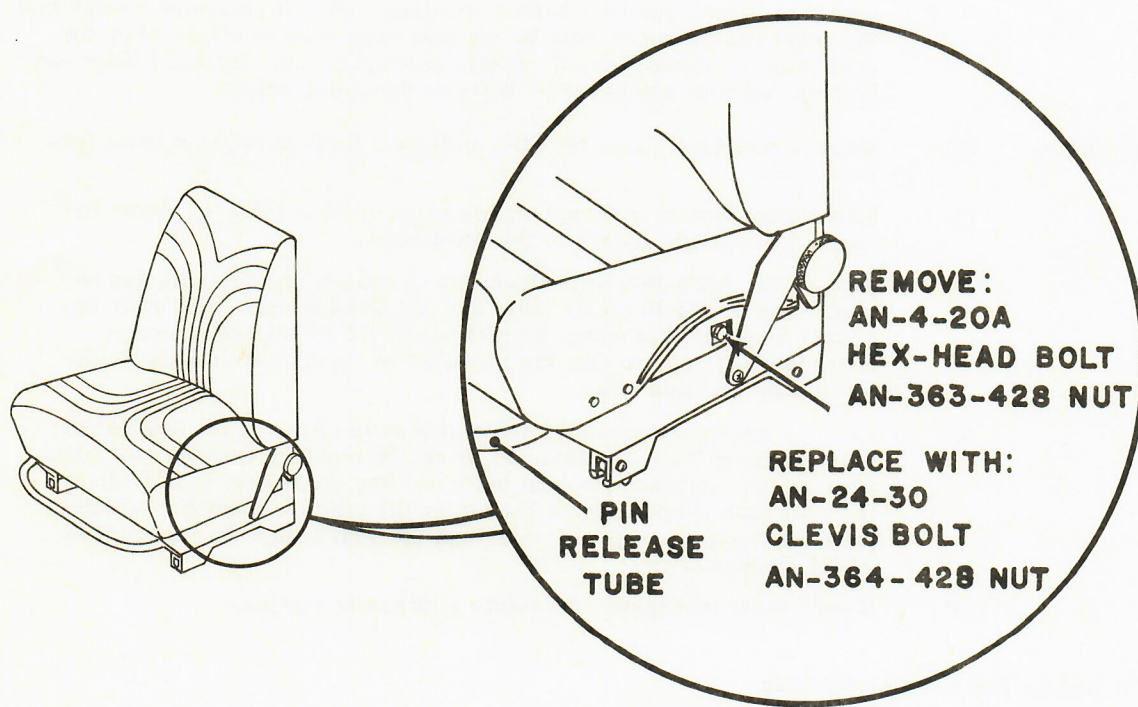

FIGURE 1
- (1) Remove both front seats from the airplane. Remove the seat belts from the seats.
- (2) Remove the bottom cover upholstery clips on both sides as shown in figure 1 to provide access to the AN-4 bolts.
- (3) Remove the AN-4-20A bolts (both sides) and AN 363-428 nuts and replace with AN-24-30 clevis bolts and AN-364-428 nuts. Cut away any canvas material from under the bolt head, and do not use a washer under the bolt head so that the installed bolt will bear directly on the metal web retention strap.
- (4) Replace upholstery using the original plastic clips. If the original upholstery cover has been damaged, it can be replaced from Mooney Spare Parts stock. Replace the seat belts, routing the belt webs outside of the seat back support plates except for the pilots inboard belt which is routed between the support plates and the seat bottom for trim control wheel clearance.
- (5) Install seats in airplane and return airplane to service.